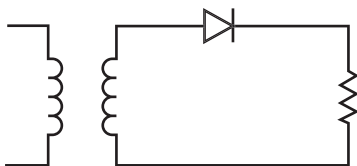

FIGURE 11.11
9 The circuit shown in Figure 11.11 shows a diode connected to the secondary coil of a transformer.
- B. Draw the waveform of the voltage across the load for the circuit shown in Figure 11.11 if the secondary coil of the transformer has a 30 V_{pp} AC output signal centered at 0 volts DC. Use a separate sheet of paper for your drawing.